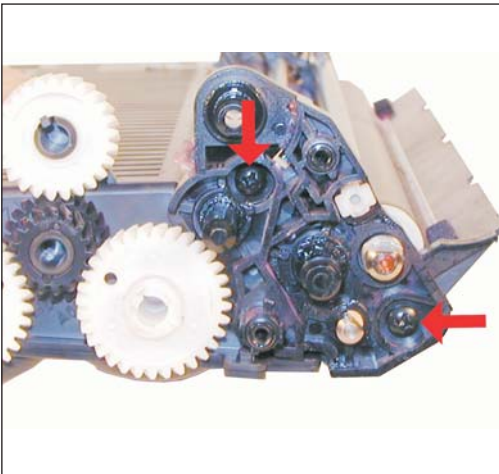

Figure 59
33) While still on the gear side, remove the two screws on the inner gear plate. See Figure 59